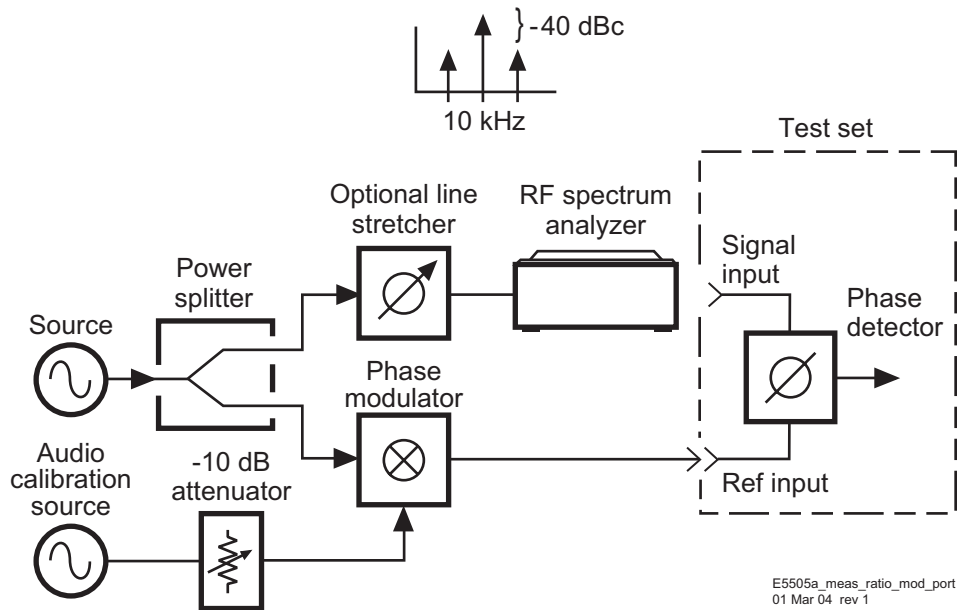

Figure 158 Measuring carrier-to-sideband ratio of the modulated port
- Using the RF spectrum analyzer or modulation analyzer, measure the carrier-to-sideband ratio of the phase modulation at the phase detector’s modulated port and the modulation frequency. The audio calibration source should be adjusted such that the sidebands are between -30 and -60 dB below the carrier and the audio frequency is between 50 Hz and 50 MHz. See Figure 158.